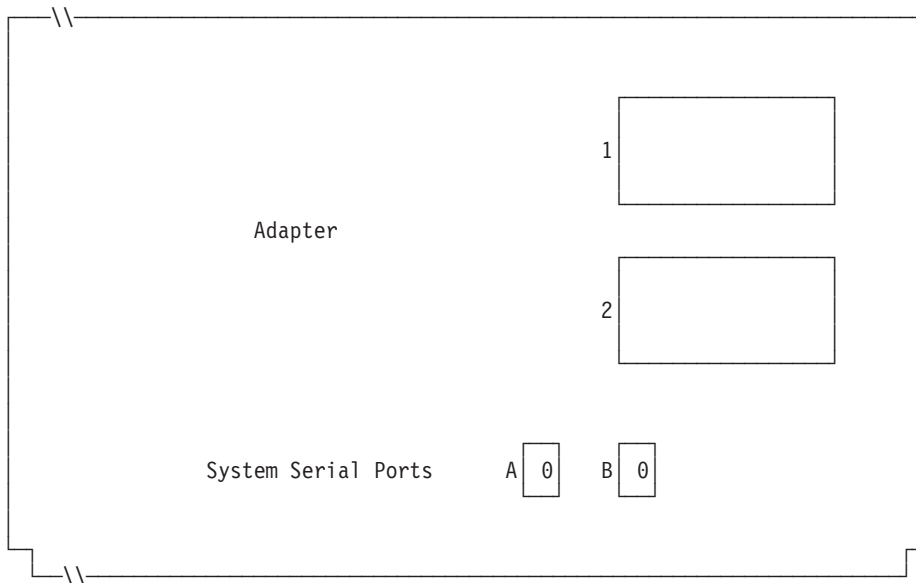

Figure 126. Right Side of Rear of 4694-205 Point-of-Sale Terminal
6. If terminal applications use an asynchronous port, write the port number on Figure 126. Use a 0 if the terminal does not use a port. Valid port numbers are 1, 2, 3, 4.